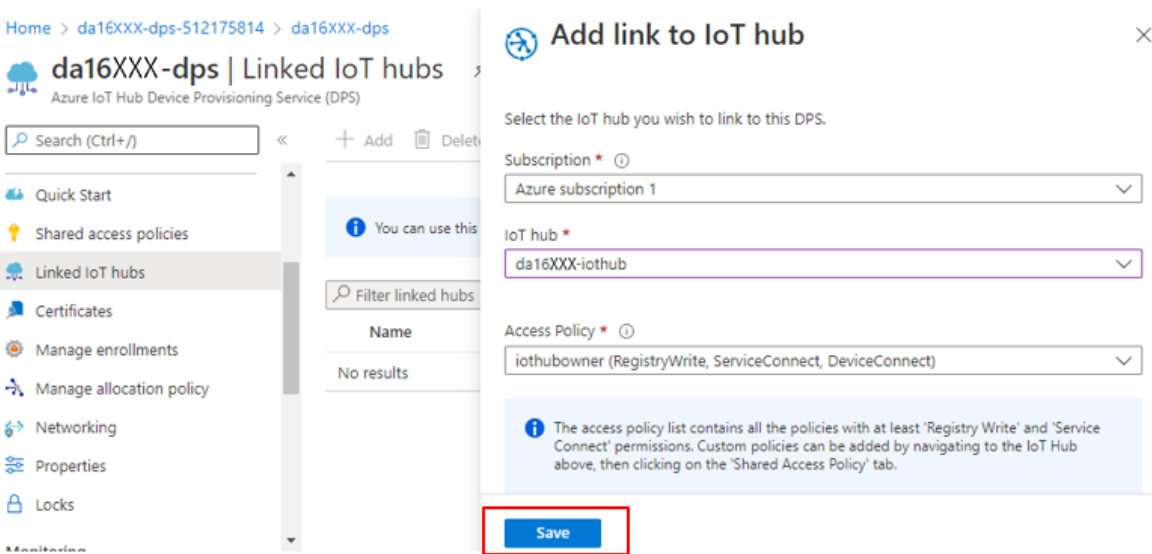

Figure 93: Configure Link
- Under **Add link to IoT hub** section, select the **IoT hub** and **Access Policy** as shown in Figure 93, and click **Save**.